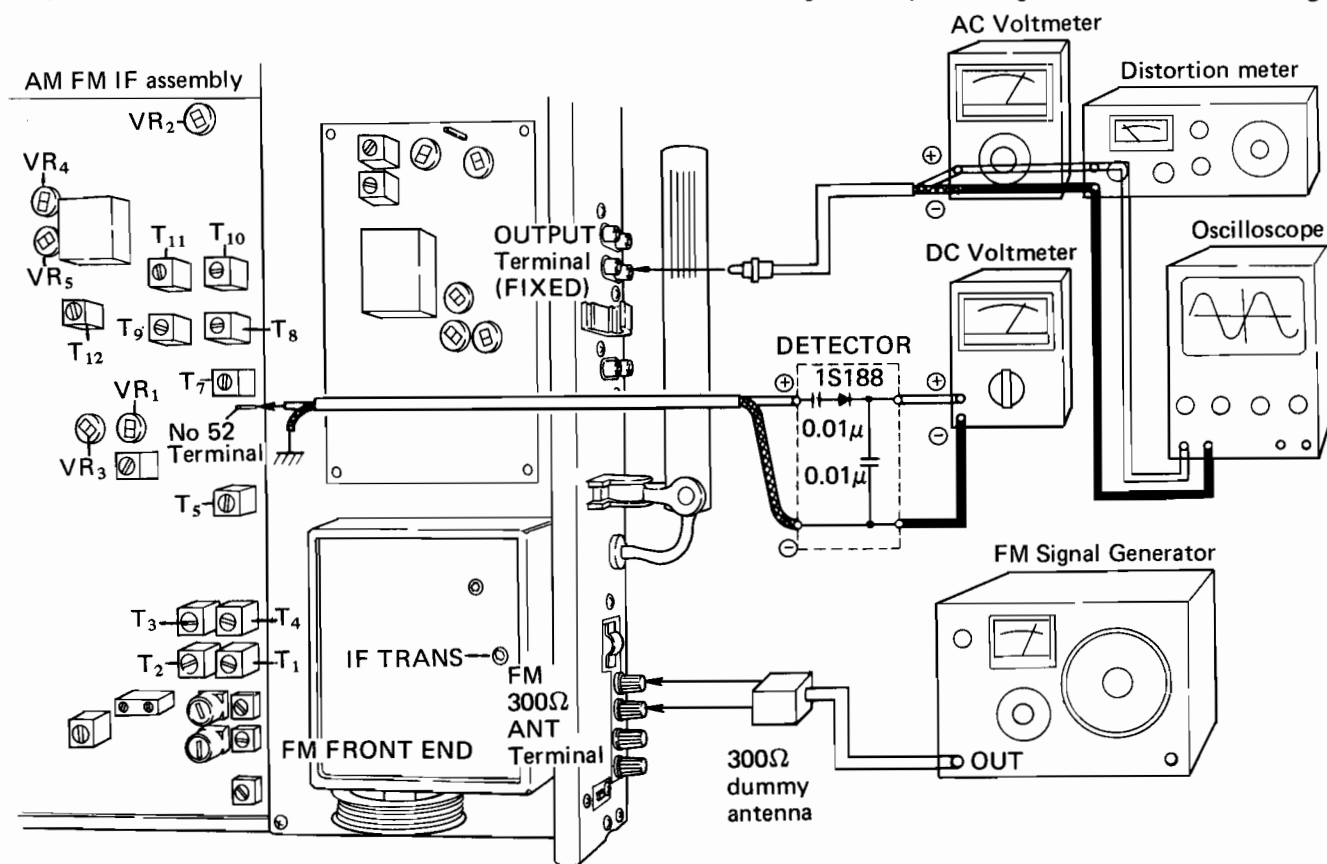

Fig. 16
1. Connect the test instruments as shown in Fig. 16.